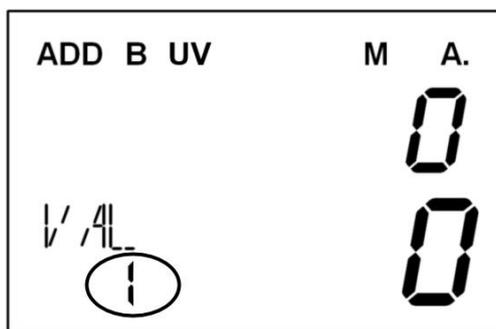

Figure 36
1) In the main screen of the machine, press the "**Denom**" button on the right side several times to adjust the denomination value to "1", as shown in Figure 36 below.